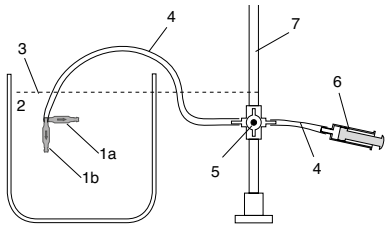

fig. 7: Test setup
- Position the manometer and the water bath in such a way that the zero point of the manometer and the fluid level of the water bath are at the same height (see fig. 7).
- Connect the syringe, the manometer and the silicone tube with each other. Use the tube adapter if necessary. (see fig. 7)